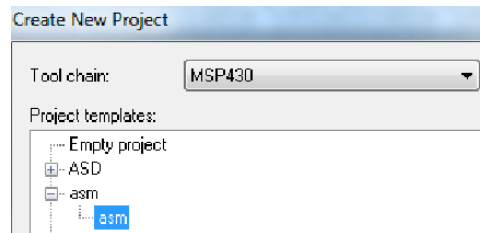

Figure 1.5: Creating new project window.
2. To create a new project: select 'Project > Create New Project ...'. Make sure MSP430 is chosen in the Tool Chain dropdown menu in the 'Create New Project' window. Choose 'asm' in the 'Project templates:' by clicking the '+' sign in 'asm' and then 'asm' in the tree that opens up. Click 'OK'. Figure 1.5 illustrates the screen you should get from the IDE if you follow the steps explained above. To the left of the screenshot we have an empty project tree view pane. What is new here is the 'Create New Project' window with the 'Project templates' pane in it.